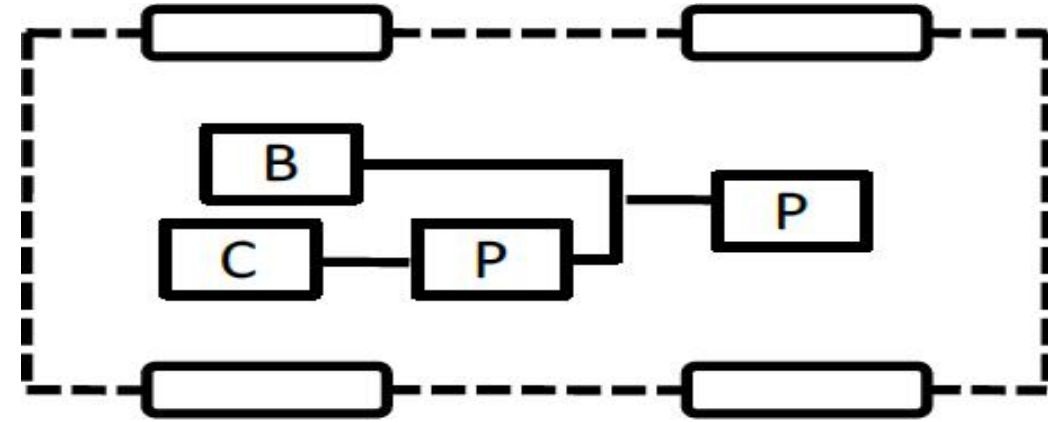

Figure 4e: EV configuration with battery and capacitors sources [1]
5. Configuration 5: Figure 4e: